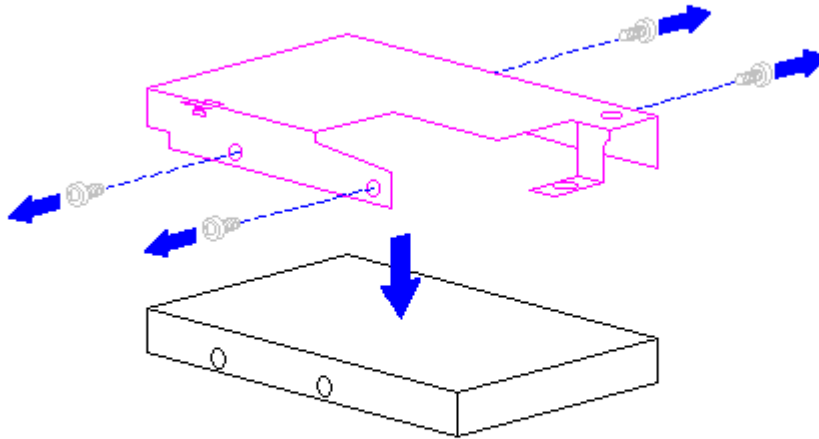

Figure 5-31. Separating the Hard Drive Bracket from the Hard Drive
3. Remove the four screws from the sides of the hard drive bracket and separate the bracket from the hard drive (Figure 5-31).